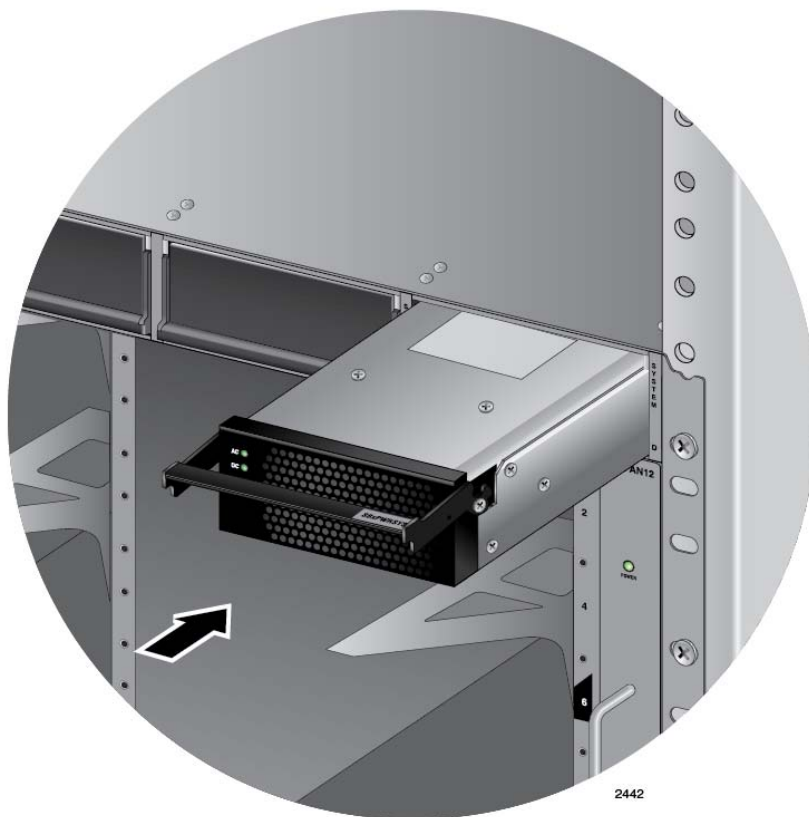

Figure 45. Inserting the AT-SBxPWRSYS1 or AT-SBxPWRSYS2 AC System Power Supply
5. Align and insert the power supply into the power supply slot. Figure 45 shows the power supply installed in slot D.